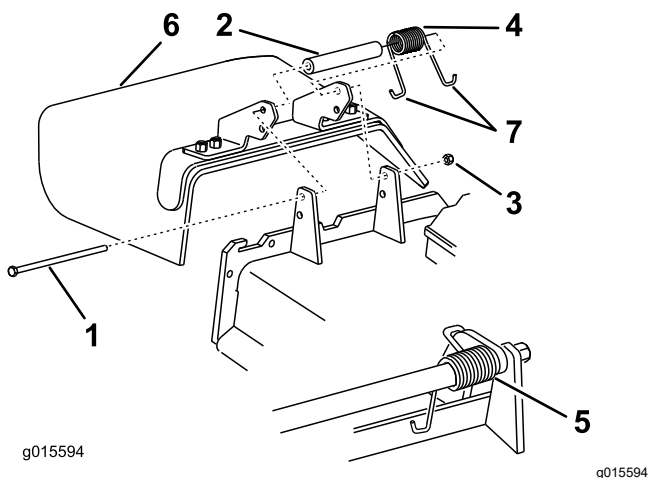

Figure 87
1. Remove the locknut, bolt, spring, and spacer holding the deflector to the pivot brackets (Figure 87).
Note: Make sure that 1 J-hook end of spring is installed behind deck edge before installing the bolt as shown in Figure 87.
6. Place 1 J-hook end of the spring around the grass deflector (Figure 87).